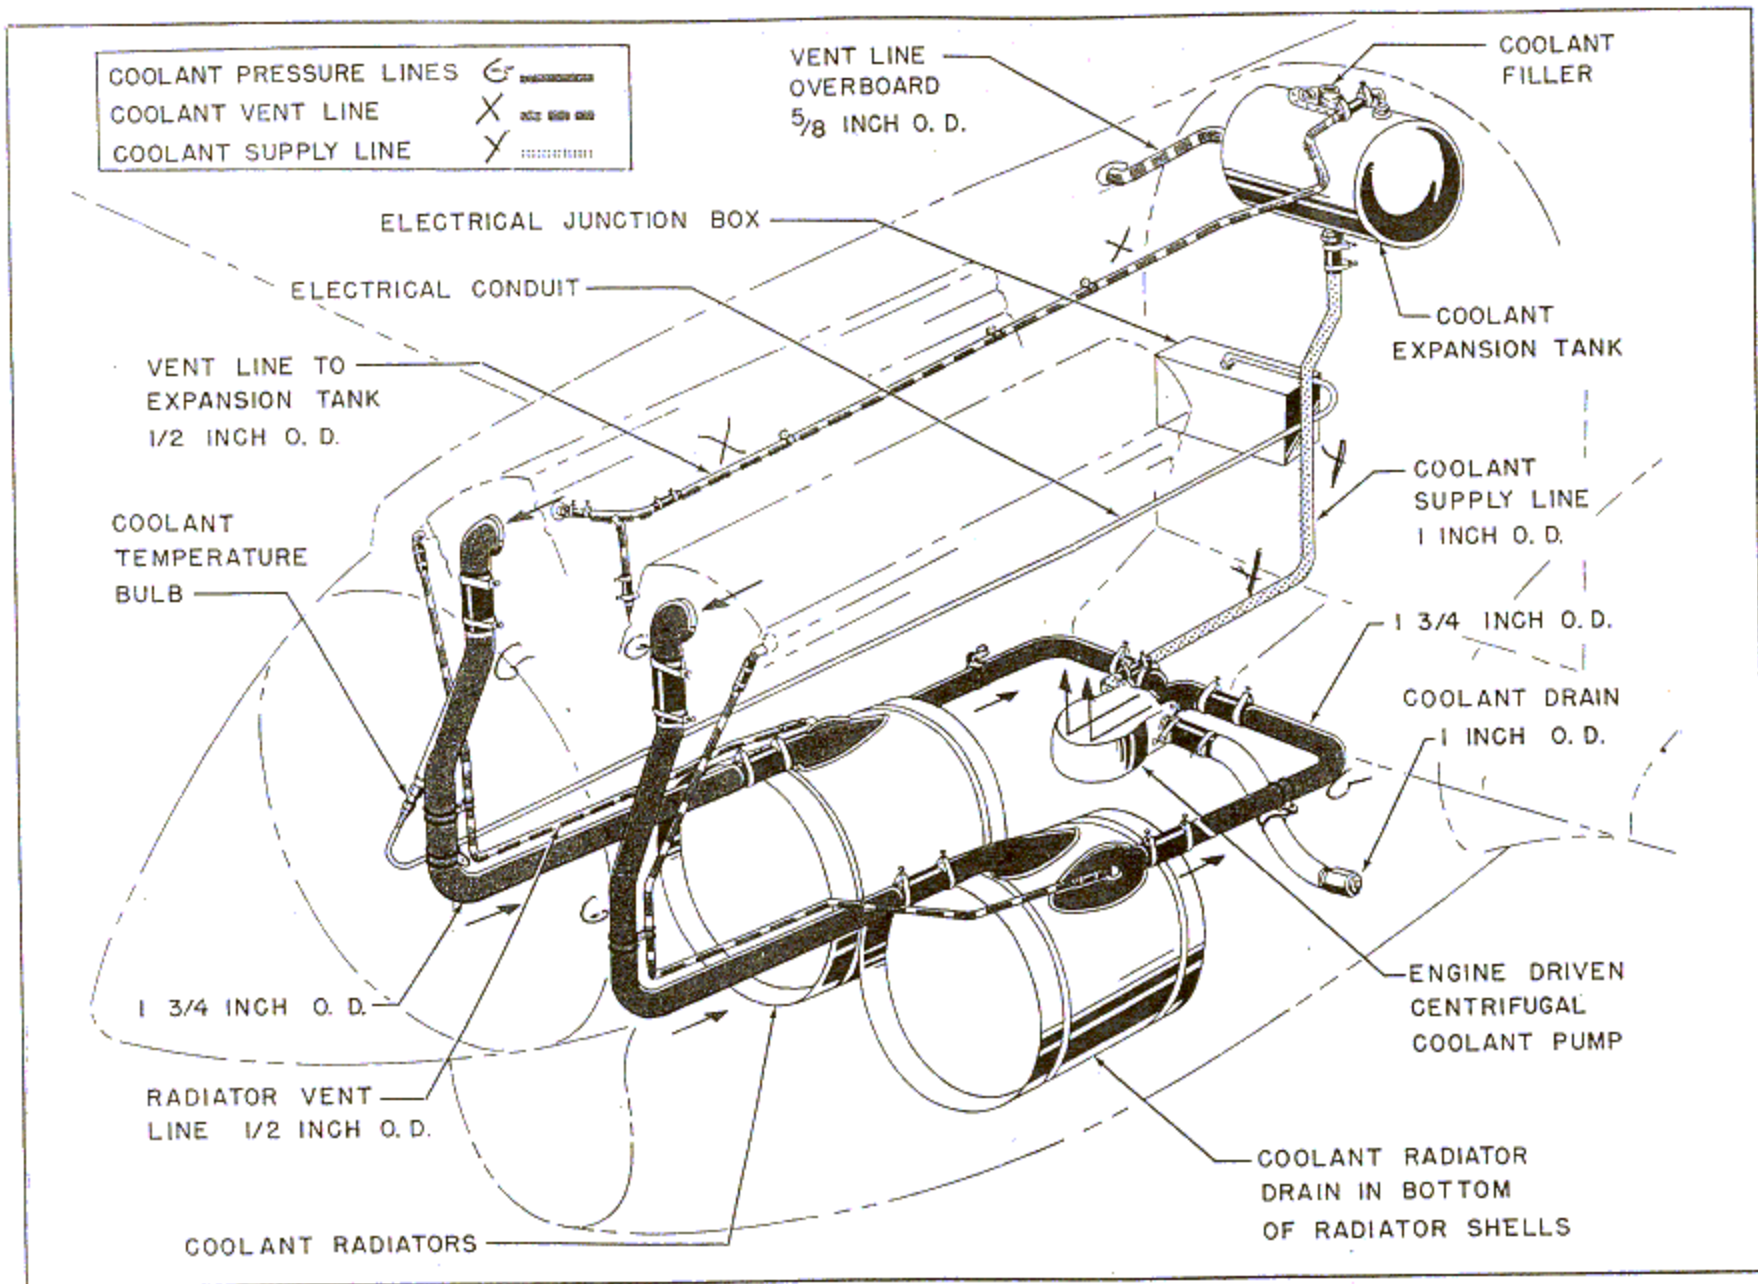

Figure 189—Cooling System
(1) GENERAL DESCRIPTION. (See figure 189.)—The engine is liquid cooled, using ethylene glycol, Specification AN-E-2, as the coolant liquid. A centrifugal coolant pump located on the bottom of the accessories housing supplies coolant to each cylinder block at two inlets, one located at the coolant jacket and the other at the rear of the cylinder head. The outlet scroll of the pump terminates in a tee with two flanged ends, and is connected by pipe to the dual inlets of each cylinder block. The coolant is admitted to the bottom of the cylinder block through an inlet manifold which is cast the full length of each jacket. These manifolds have an orifice at each cylinder barrel which meters the coolant flow. The inlet at the rear of the cylinder head provides a direct rapid flow over the combustion chambers. The coolant leaves the